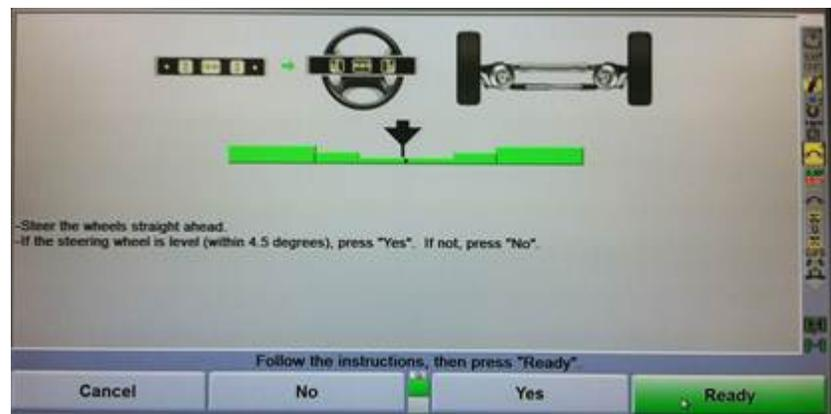

Figure 2. Screen shot illustrating the point at which the front wheels
- a. Point the front wheels in a straight-ahead position according to the display on the alignment machine (Figure 2). Disregard the level of the steering wheel at this point.